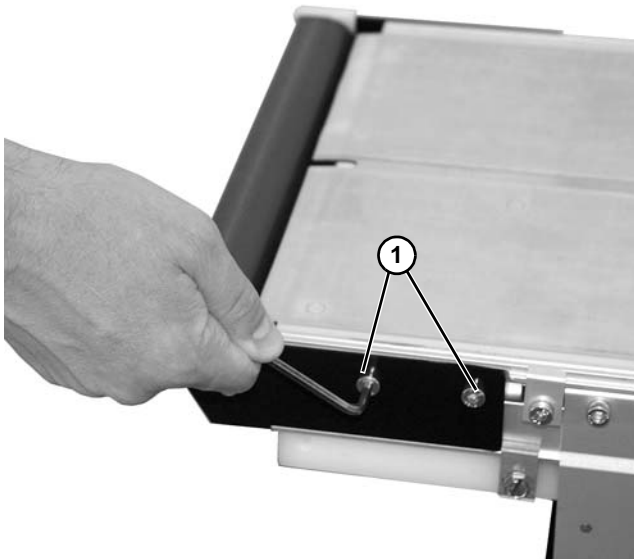

Figure 49
1. On one side of conveyor, remove two (2) fastening screws (Figure 49, item 1).